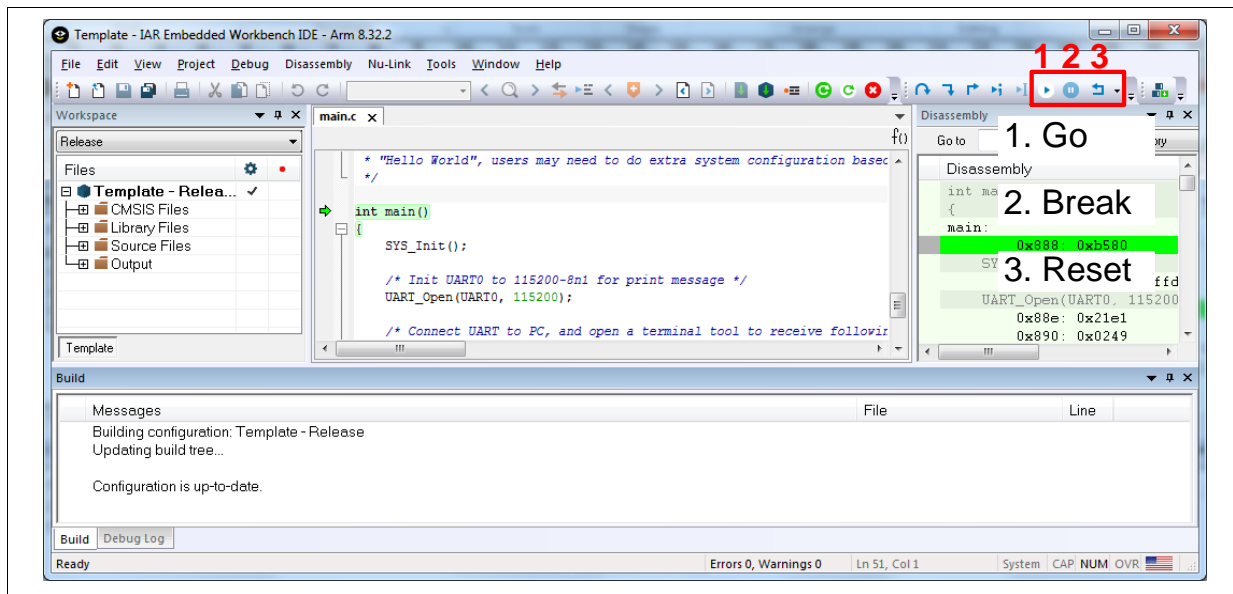
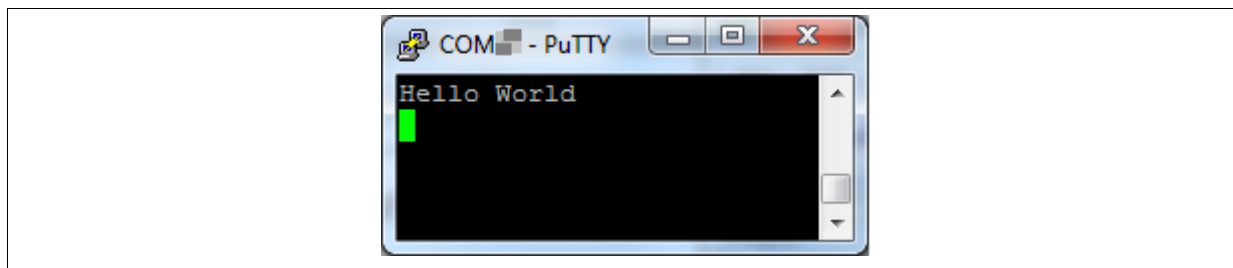

Figure 4-17 IAR EWARM Debug Mode
Figure 4-18 Debug Message on Serial Port Terminal Windows
- Figure 4-17 shows the debug mode under IAR EWARN. Click “Go” and the debug message will be printed out as shown in Figure 4-18. User can debug the project under debug mode by checking source code, assembly language, peripherals’ registers, and setting breakpoint, step run, value monitor, etc.